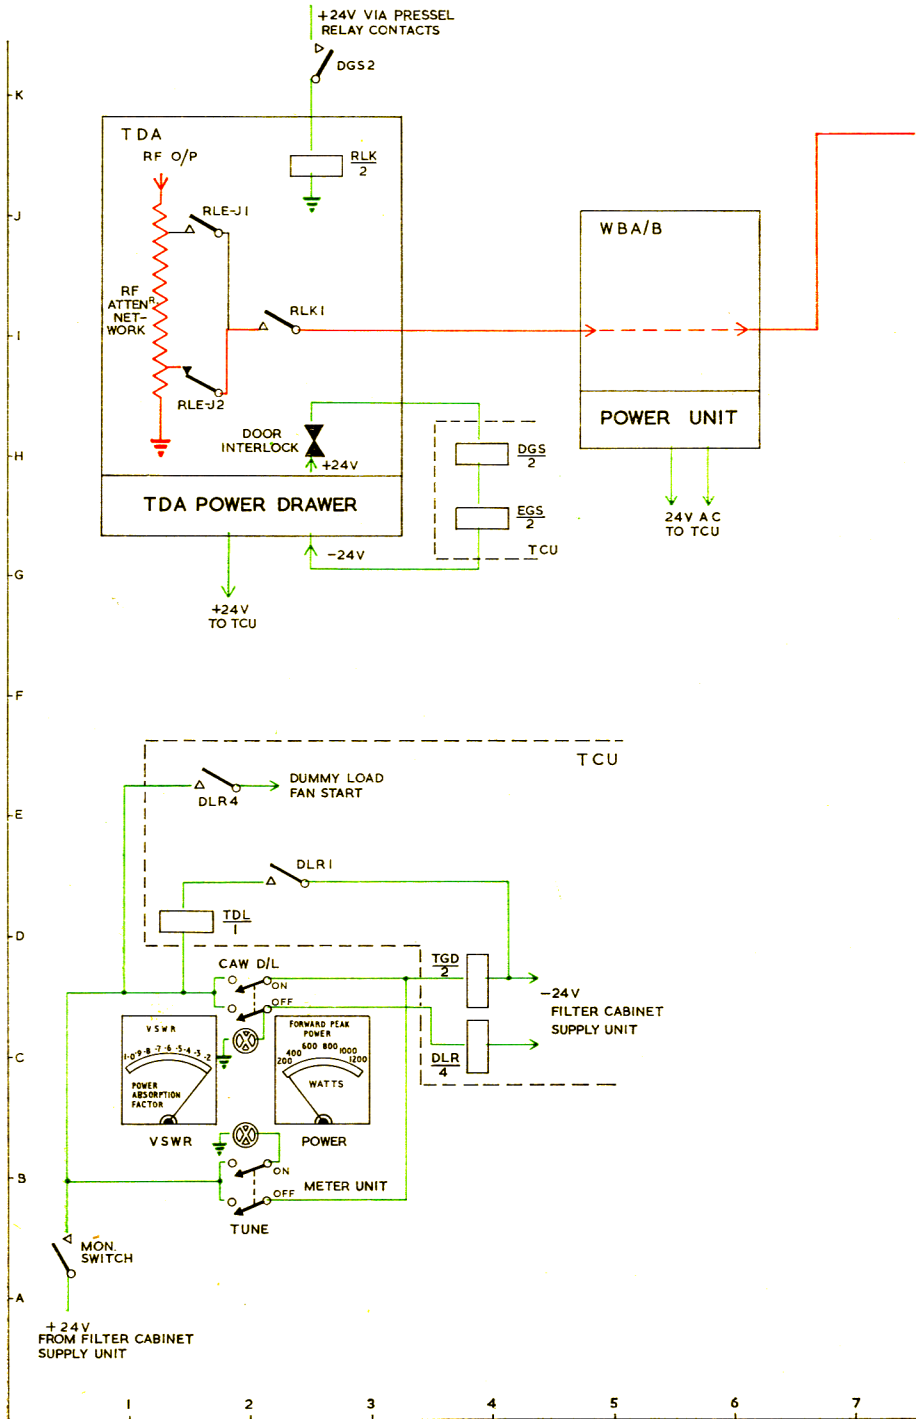

FIG. 1A. RELAY SEQUENCE
a. This explanation and Figure 1a/1b contain references to only those switches, relays and relay contacts, which are considered essential for the user to gain an understanding of relay action and lamp indications associated with switching during the tuning and setting-up of I.C.S. transmitter equipment. It is assumed that all power supplies are switched on, and it should be noted that 24-volt control voltages for relays are obtained from the following sources:
- (1) TDA power drawer.
- (2) TCU power unit.
- (3) CAW outfit EAW power supply drawer.